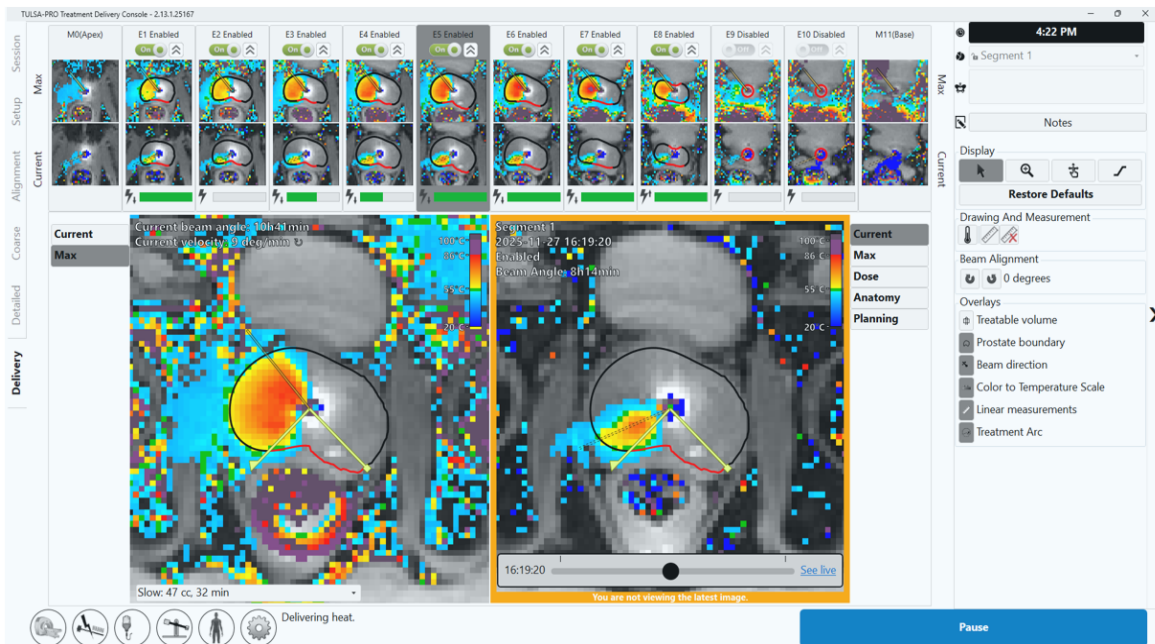

Figure 57: “You are not viewing the latest image” message below history slider
**NOTE:** When viewing images from previous timepoints, a frame around the right viewport shows that the latest images are not being viewed (*Figure 57*). A dashed line shows where the beam angle was at the previous timepoint. To return to the current timepoint, click **See live** or drag the History Slider until the framed message disappears.